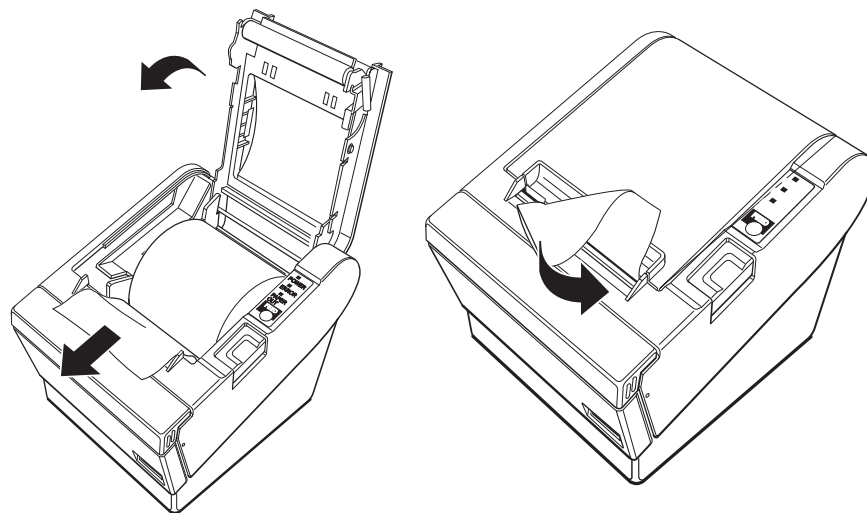

Figure 6.5 Tear Paper
- 3 Pull out a small amount of paper, as shown in Figure 6.5. Then close the cover and tear off the extra paper by pulling it toward the front of the printer.